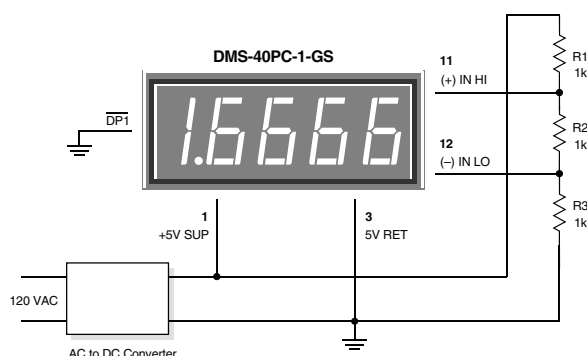

Figure 3. Differential Input Configuration
2. Differential Input Configurations: Differential inputs can also be measured with DMS-40PC meters as shown in the circuit of Figure 3. Differential inputs must also originate from power supplies that have a common ground with the meter's 5V RETURN (pin 3). However, differential inputs usually have both terminals above and/or below 5V RETURN. Figure 3, though not necessarily a typical real-world application, does serve the purpose of illustrating the concept of a differential signal.